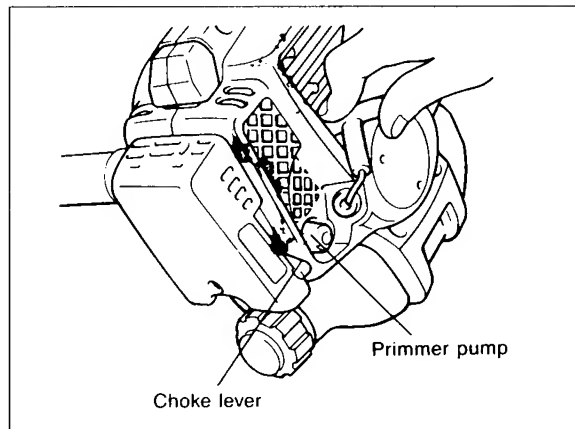

Fig. 18
- 2) Give a gentle push on the primer pump repeatedly (7 — 10 times) until fuel comes into the primer pump. (Fig. 18)
- 3) Close the choke lever fully by moving it to the  position. (Fig. 18)
- 3) Open the choke lever fully by moving it to the  position. (Fig. 18)